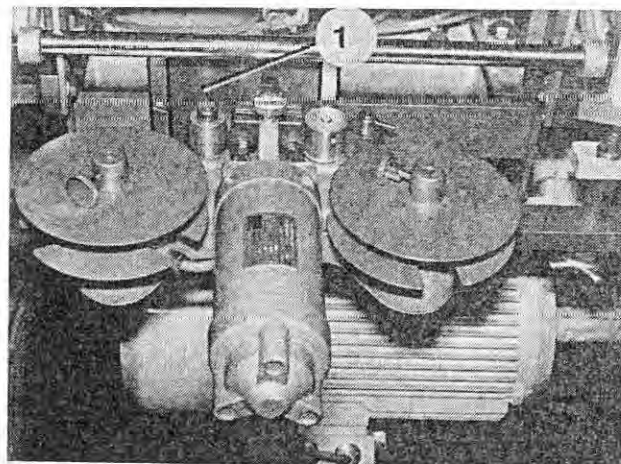

Fig. 229
3. Adjust the printing height by relocating the rods with the counterplate (Figure 229/1).